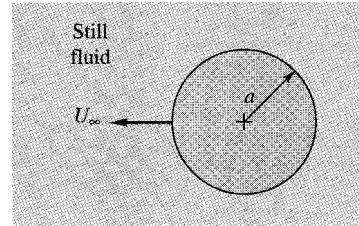

Fig. P8.104
- 8.104** Consider a cylinder of radius  $a$  moving at speed  $U_\infty$  through a still fluid, as in Fig. P8.104. Plot the streamlines relative to the cylinder by modifying Eq. (8.32) to give the relative flow with  $K = 0$ . Integrate to find the total relative kinetic energy, and verify the hydrodynamic mass of a cylinder from Eq. (8.104).